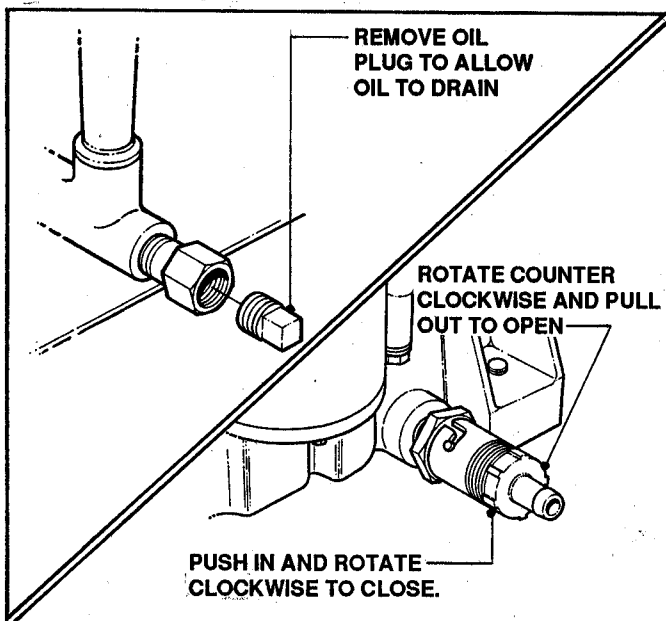

FIGURE 3.1
- Place a 2 quart capacity container under the end of the oil drain. Open oil drain. See figure 3.1 for oil drains used on the Series 14 Rear Engine Riders.
Refer to Figure 3.1, and wipe up any oil that may have spilled.